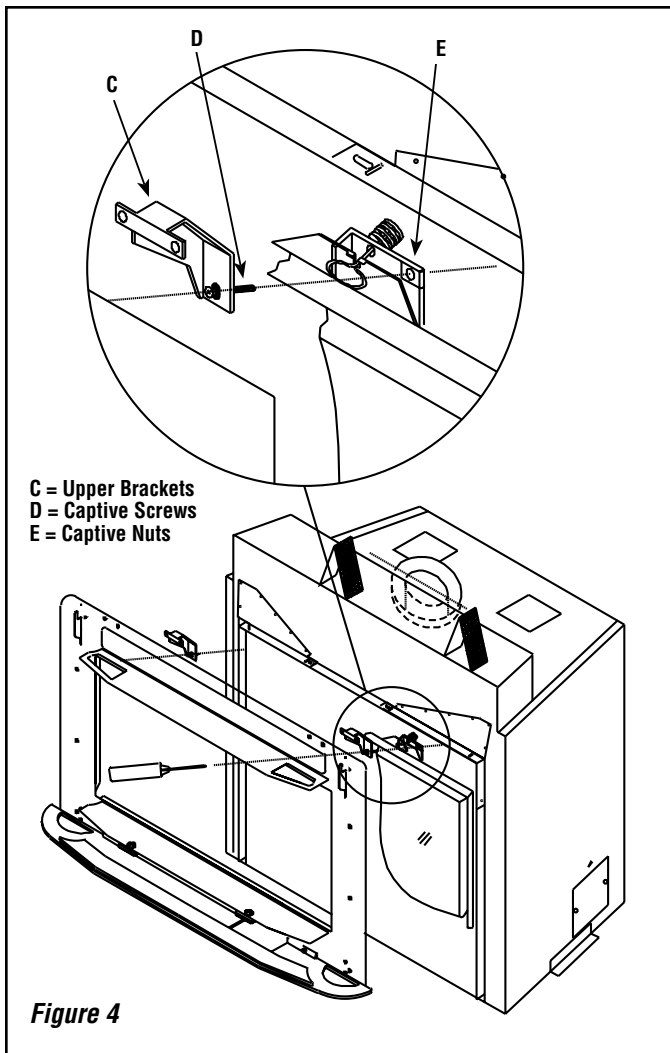

Figure 4
- b) The upper brackets (see C in **Figure 4**), which were installed on the backing plate following the instructions on the previous page, contain a captive screw (see D in **Figure 4**). The captive screws D on these brackets should be screwed into captive nuts (see E in **Figure 4**) on the fireplace. A phillips head screwdriver inserted through the large hole in the backing plate can be used to complete this task.